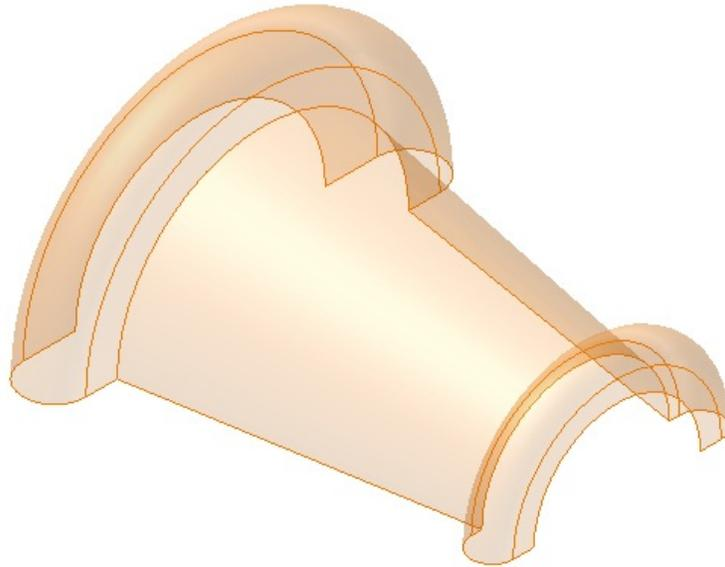

Figure 14-53 Base surface
- b. Revolve this sketch through an angle of 180-degree so that the final output is a surface, refer to Figure 14-53.
4. Select **Angle** from the drop-down list in the **Extents** area and set the value of the angle to 180 degrees. Next, choose **OK**; the base surface is created, as shown in Figure 14-53.